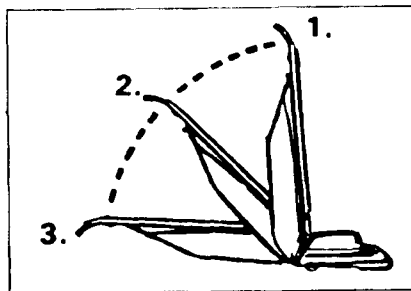

Fig. 1
With the tip of your toe, release the handle lock located at the rear left side of the cleaner and move the handle to the desired position. (1) Upright when not in use. (2) Normal for sweeping. (3) Low when cleaning under low furniture. (Fig. 1)